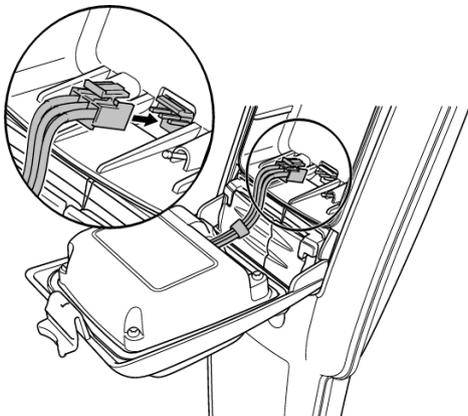

Figure 4.2 Li-ion battery pack connection
- 2 If using a Li-Ion battery pack un-plug the lead connector (see figure 4.2)